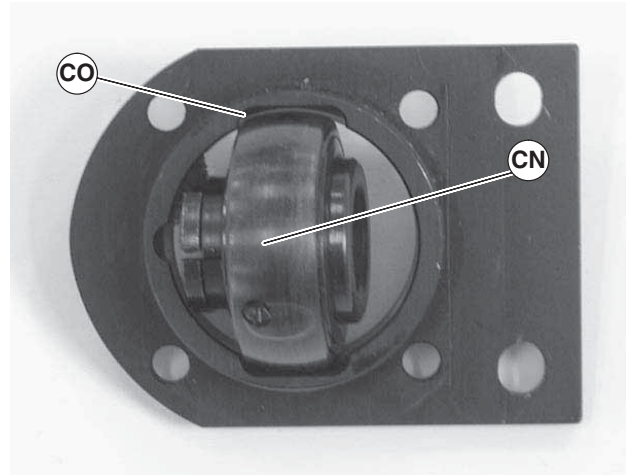

Figure 86
2. Insert bearing (Figure 86, item CN) into housing slot (CO). Locate anti-rotation nub (CP) to align with slot (CQ), and twist bearing into housing.